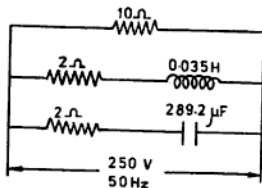

Fig. NE 11.37
- 11.37 In the circuit shown in Fig. NE 11.37, find: